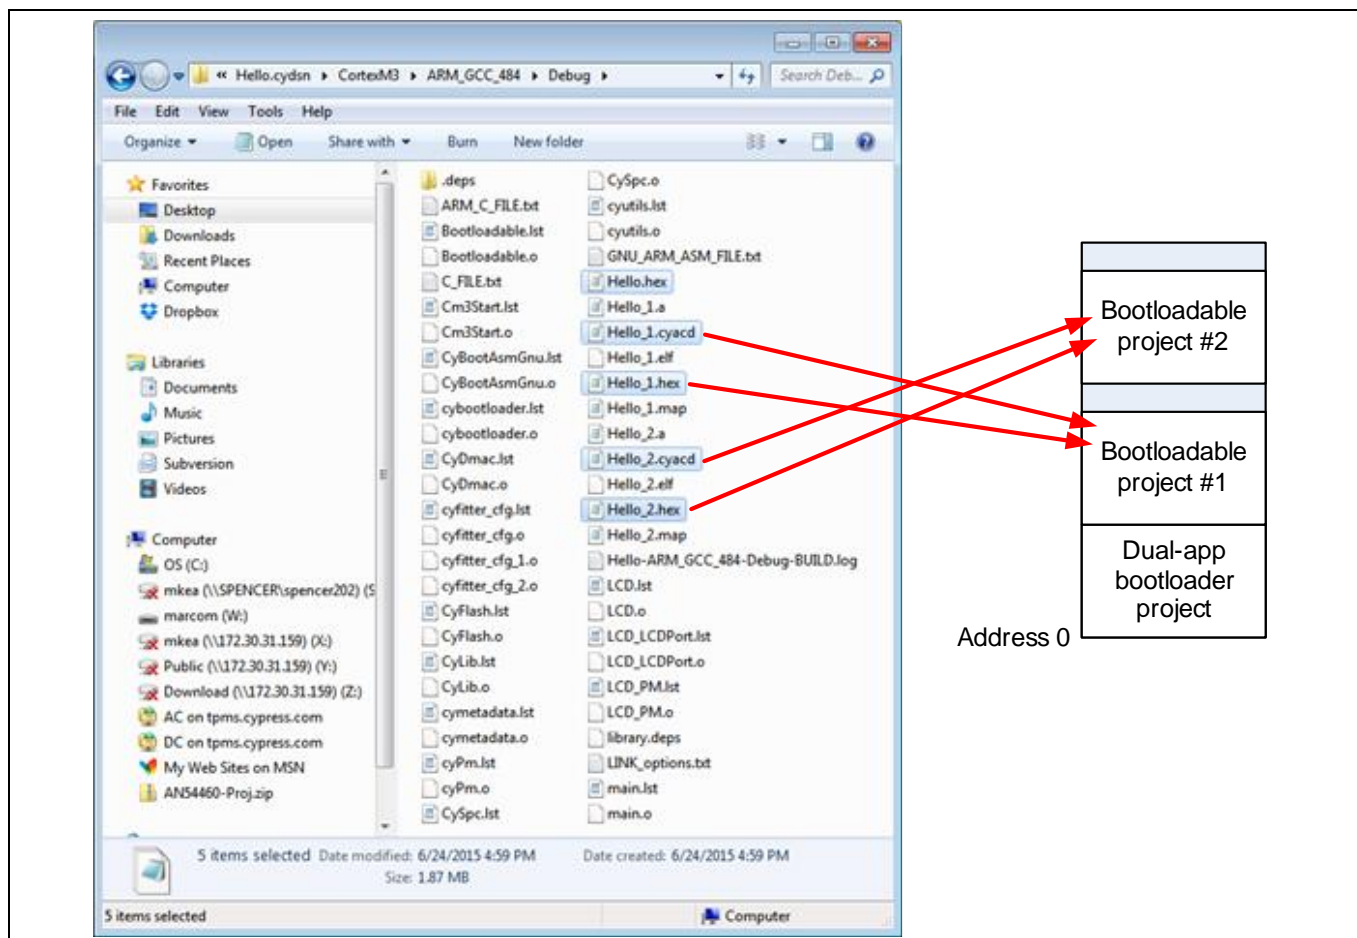

Figure 17 Dual-application bootloadable project files
2. Project Files: A dual-application bootloadable project has five output files, instead of the two files shown in Figure 17. These files allow placement of the bootloadable project as either application 1 or application 2, as Figure 17 shows. For a high-reliability application, you can place two copies of the same bootloadable project into flash.